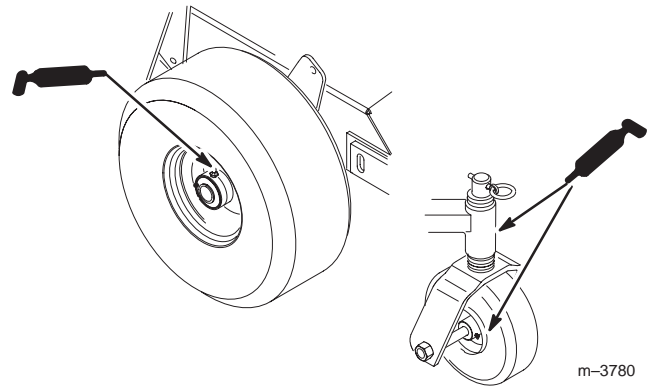

Figure 39
1. Lubricate the drive and caster wheel bearings and front spindles (Fig. 39). Lubricate every 8 hours.